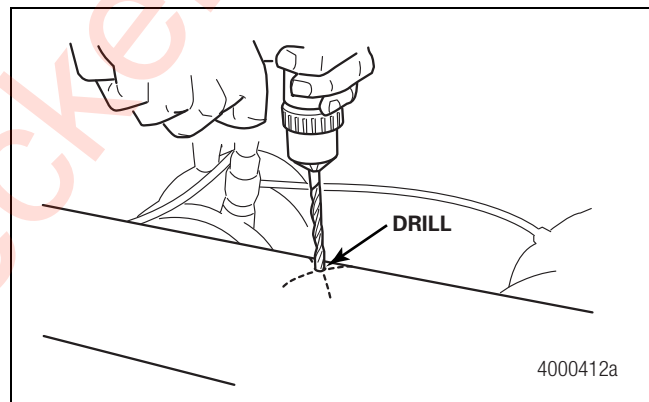

Figure 2.2
4. Use drilling lubricant and a variable speed electrical drill to drill an 11/32-inch diameter hole STRAIGHT into the top-center of the axle. Figure 2.2.